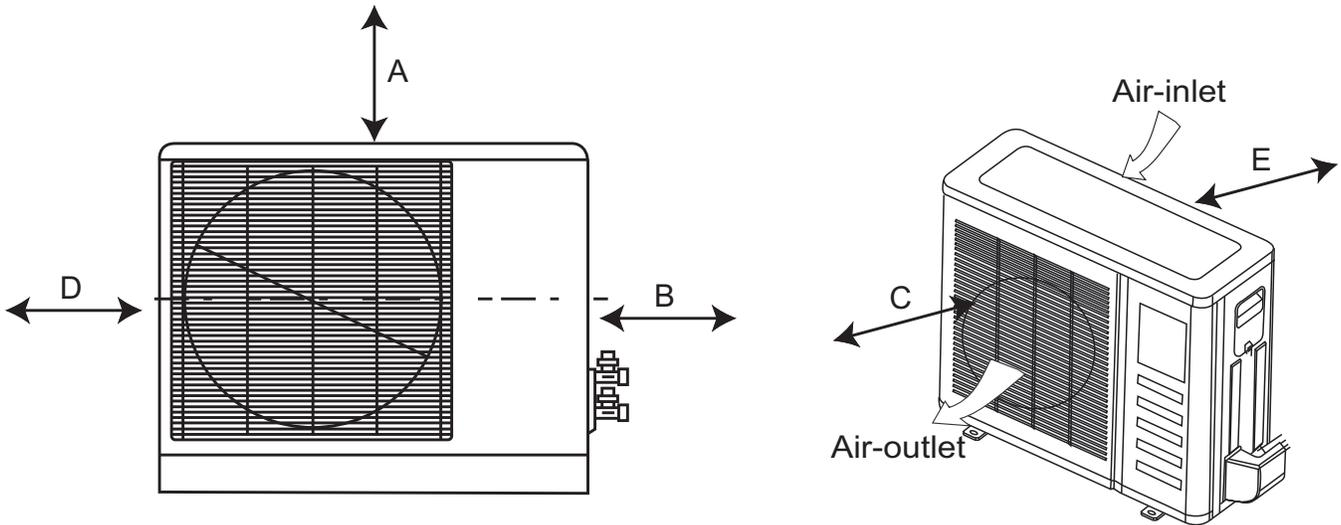

Fig. 4 – Outdoor Unit Clearance
- A location which provides appropriate clearances as outlined in Fig. 4.